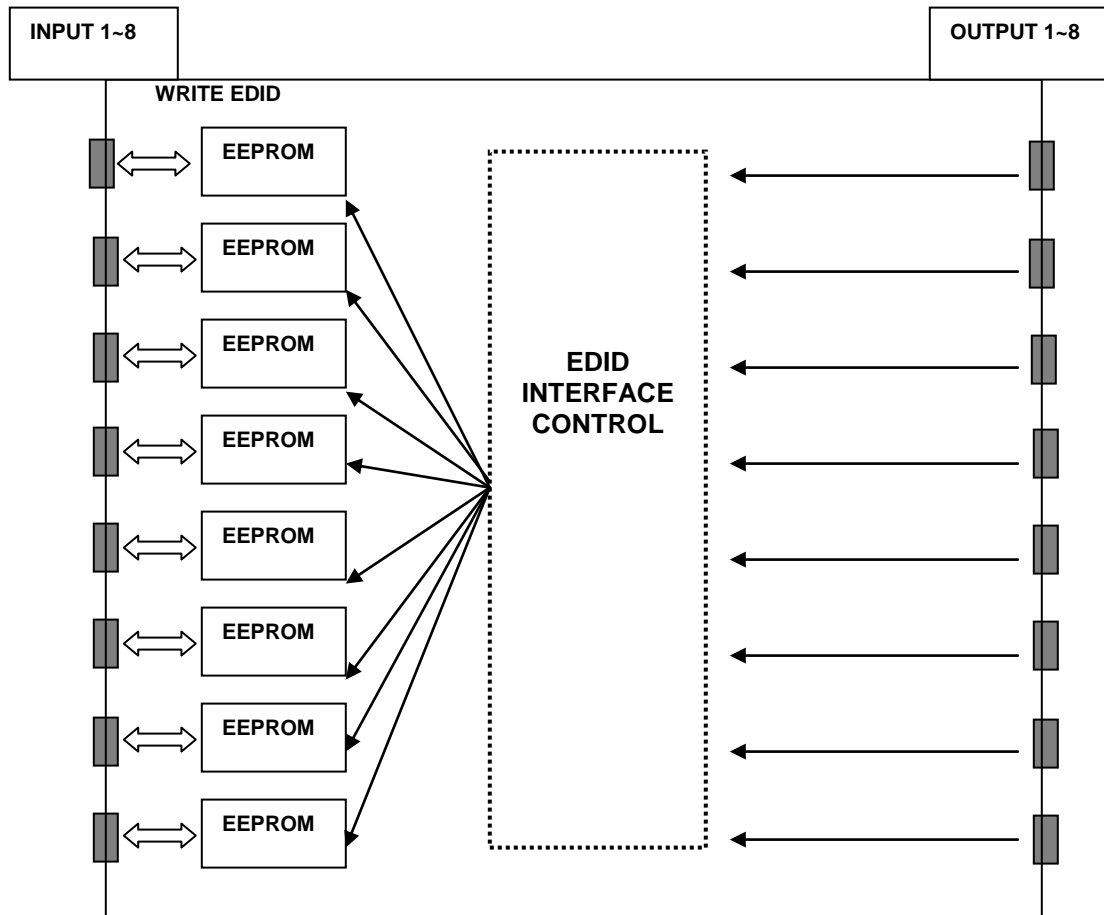

Figure 1-3 Concept drawing for setting EDID in ODM-88
- As depicted in Figure 1-3, once EDID is configured, each EDID is stored in EEPROM at the front of the DVI Input. As a result, the video sources are able to read EDID from the EEPROM during boot-up; even though the ODM-88 and connected displays are not powered on yet.